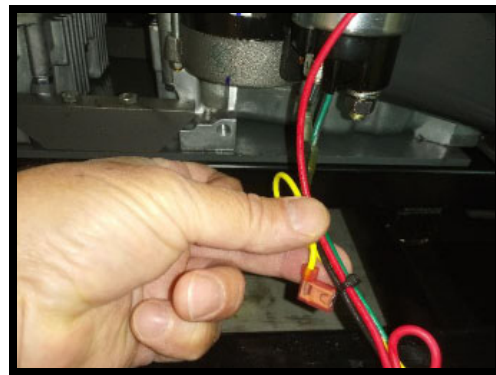

FIGURE 3
7. Zip tie or use electrical tape to secure the yellow wire to the engine harness as shown in Figure 3. This wire will no longer be used and will not be connected anything once the jumper is installed.